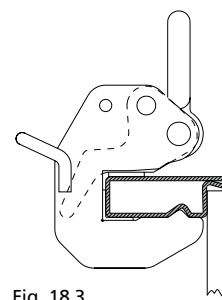

Fig. 18.3
3. Let go of the safety lever and it will go back to its start position and lock the crane hook. Check that the crane hook is locked before using the crane hook (Fig. 18.3).